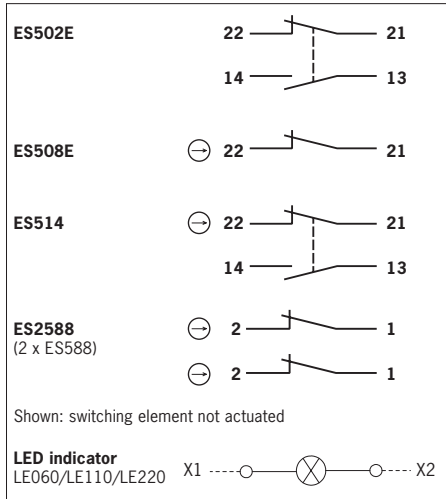

Fig. 1: Switching elements and terminal assignment
When switches with indicators are used, the voltage range printed on the indicator housing must be observed (for connection see Figure 1).
- ▶ For terminal assignment see Figure 1